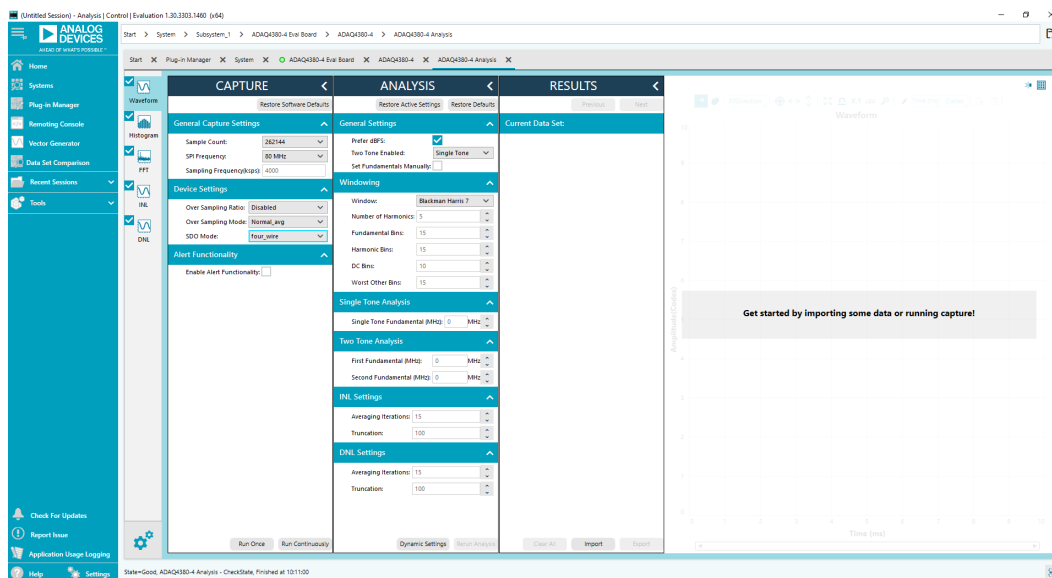

Figure 20. ADAQ4380-4 Analysis View Window
6. Click **Proceed to Analysis** in the chip view window to open the analysis view window, as shown in Figure 20.
In the **ANALYSIS** pane, the **General Settings** section allows the user to set up the preferred configuration of the FFT analysis. This configuration sets the number of tones to analyze and if the fundamental is set manually (see Figure 20).